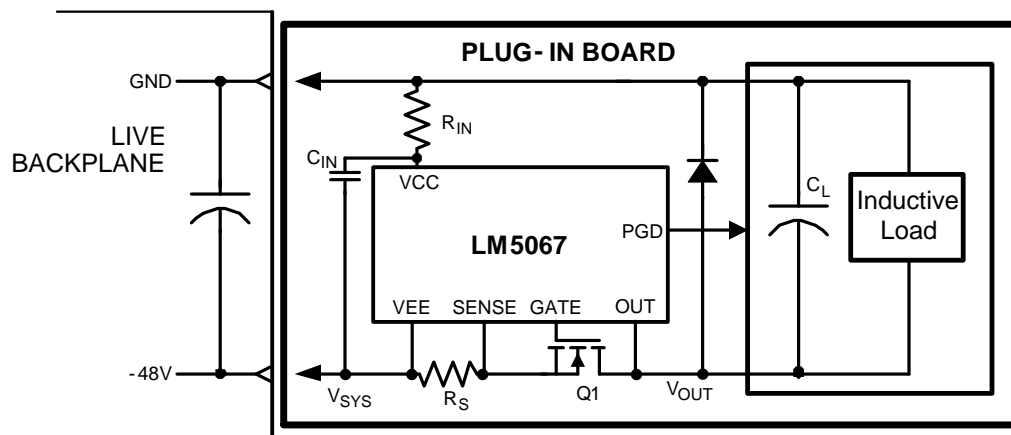

Figure 22. Output Diode Required for Inductive Loads
- If the load powered via the LM5067 hot swap circuit has inductive characteristics, a diode is required across the LM5067's output to provide a recirculating path for the load's current. Adding the diode prevents possible damage to the LM5067 as the OUT pin will be taken above ground by the inductive load at shutoff. See Figure 22.